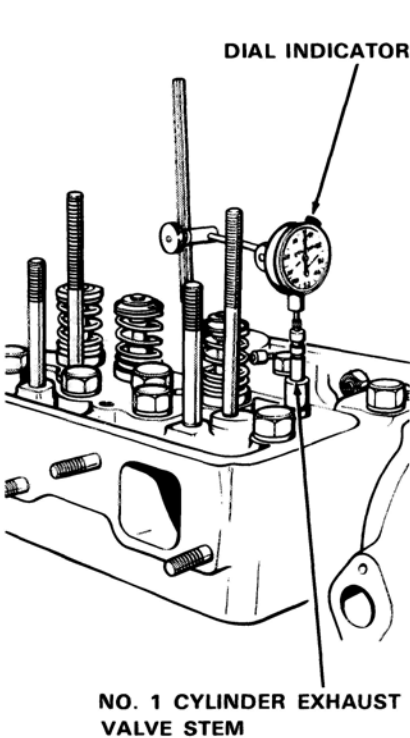

Figure 25
4. Install a dial indicator so the indicator finger is under slight pressure on the top end of the exhaust valve stem of No. 1 cylinder, Figure 25.